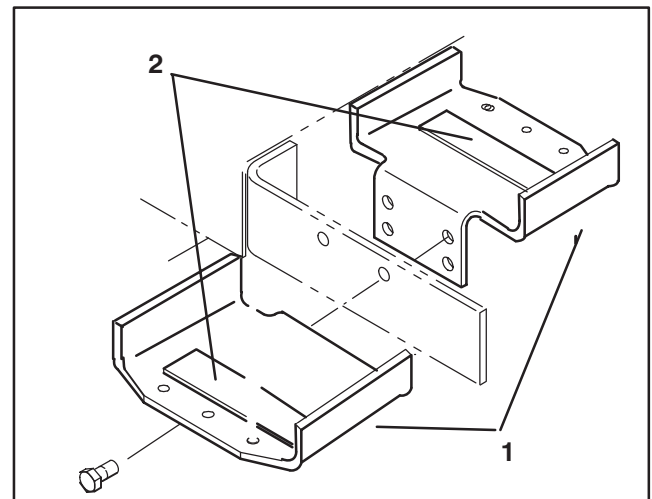

Figure 5
INSTALL BATTERY (Fig. 5 & 6)
1. Mount battery holders to left rear corner or cutting unit carrier frame with (2) 3/8-16 x 1-3/4" lg. cap-screws and locknuts.
2. Peel off backing from battery pads and affix pads to battery holder, positioning as shown in Fig.5. Rubber battery pads should be centered on battery holders.